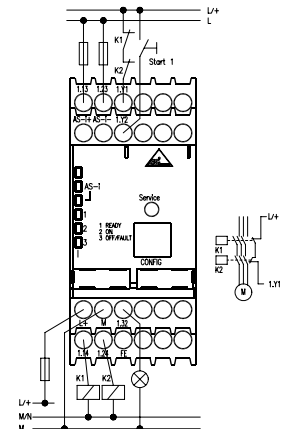

Fig. 1: Connection overview ASM1/1, ASM1E/1
**Connection ASM1/1, ASM1E/1 and terminal assignment (Fig. 1)**